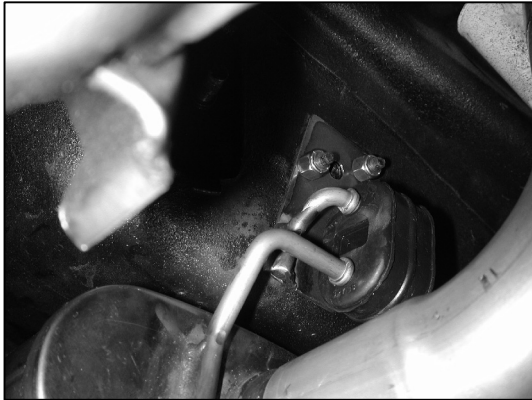
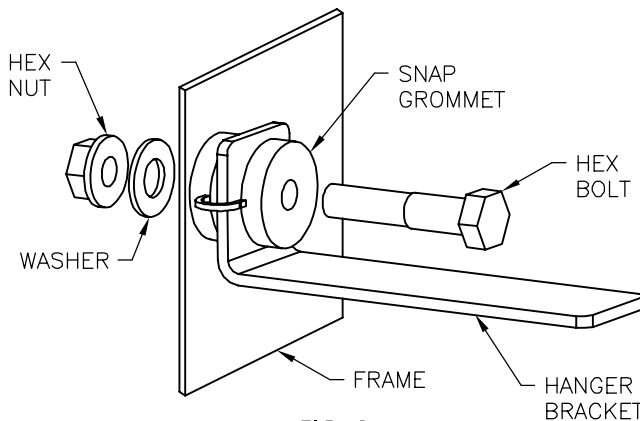

FIG. 1
FIG. 3
Step 2: Begin installing the new system by fitting the new mufflers, tailpipes and tru-x assembly into place for a mock up fitment, as shown to the left. This will help to determine where to drill the frame or floorboards for the muffler and tailpipe mounting brackets as shown in Fig. 1 & 3. If the OEM mounting points will not work, fasteners are supplied to be used in place of the hex head bolts if required. Use a 1/2" drill bit for the bolt/nut combo, or use a 5/16" drill bit for the tri-lobular sheet metal screws. You should now also be able to determine where to trim and or modify the inlet pipes if needed. With the system loosely installed, adjust the components for at least 1/2" clearance, including areas with moving parts (axle, driveshaft, etc.). Once a proper fit for the complete system has been achieved using the supplied clamps, the inlet pipes can be welded to the manifold or header flanges. Once the tailpipe brackets are bolted in place as shown in Fig. 3, they can be bent and welded to the tailpipe.